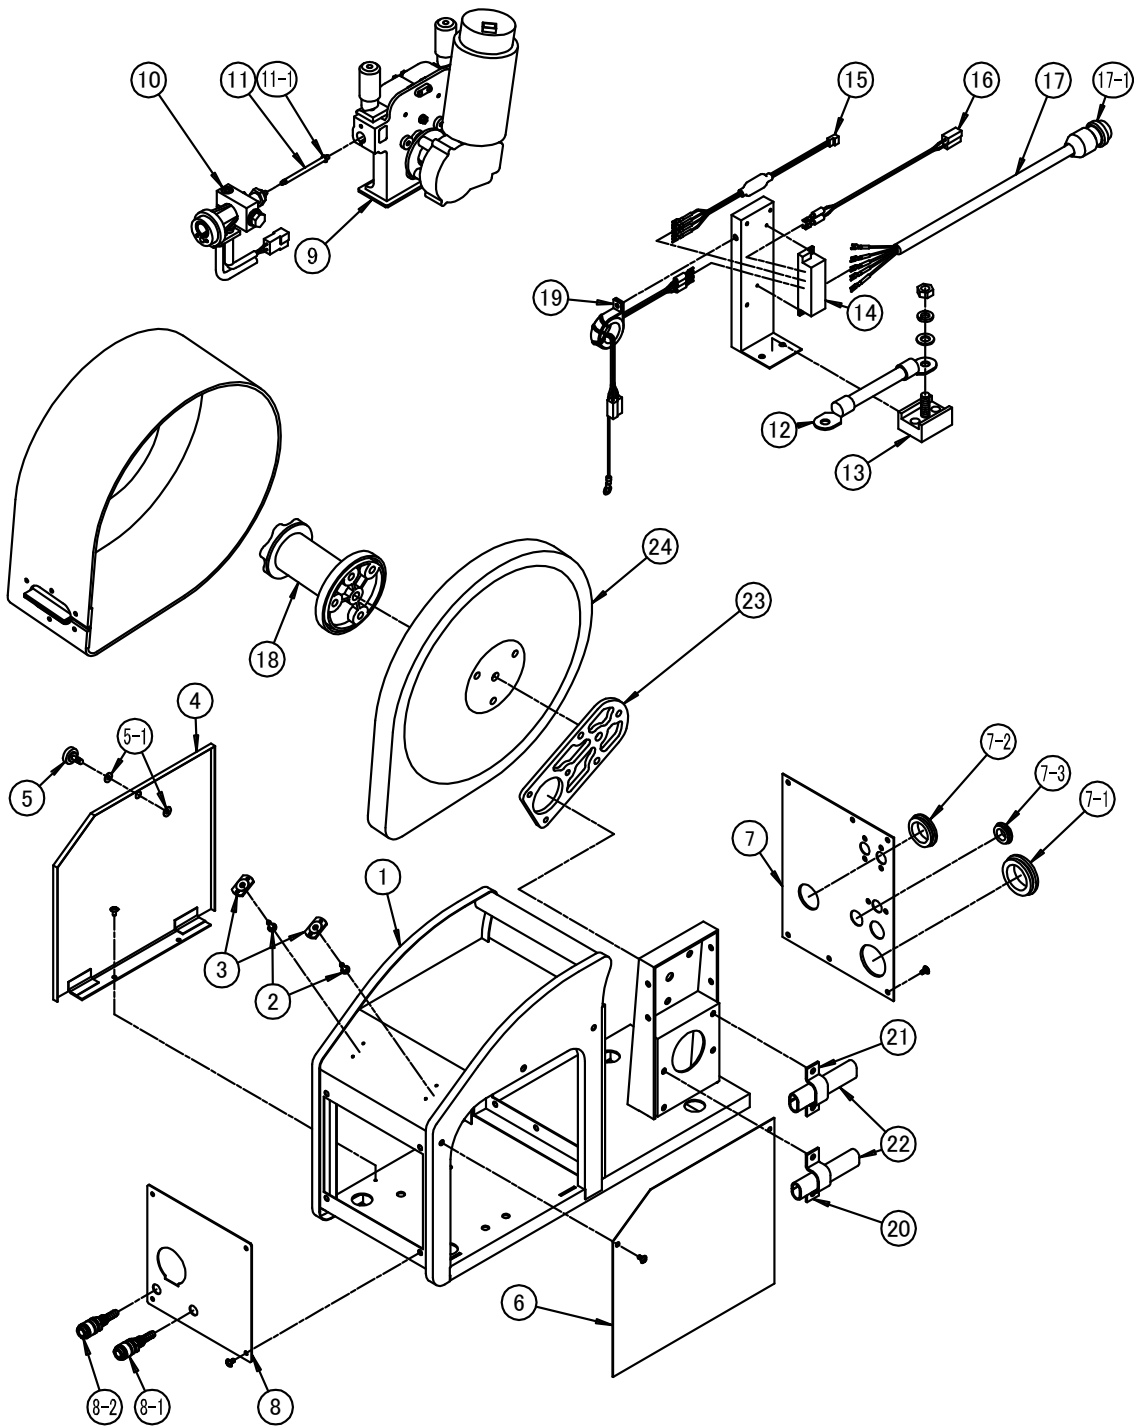

Fig. 1 Main Body and Wiring Assembly
9.1 Main body and wiring (Fig.1)